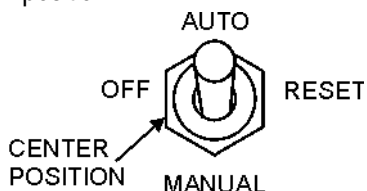

Figure 41. Off/Manual Auto Switch (OFF)
4. Place the Off/Manual/Auto Switch (Figure 41) in the "OFF/RESET" position